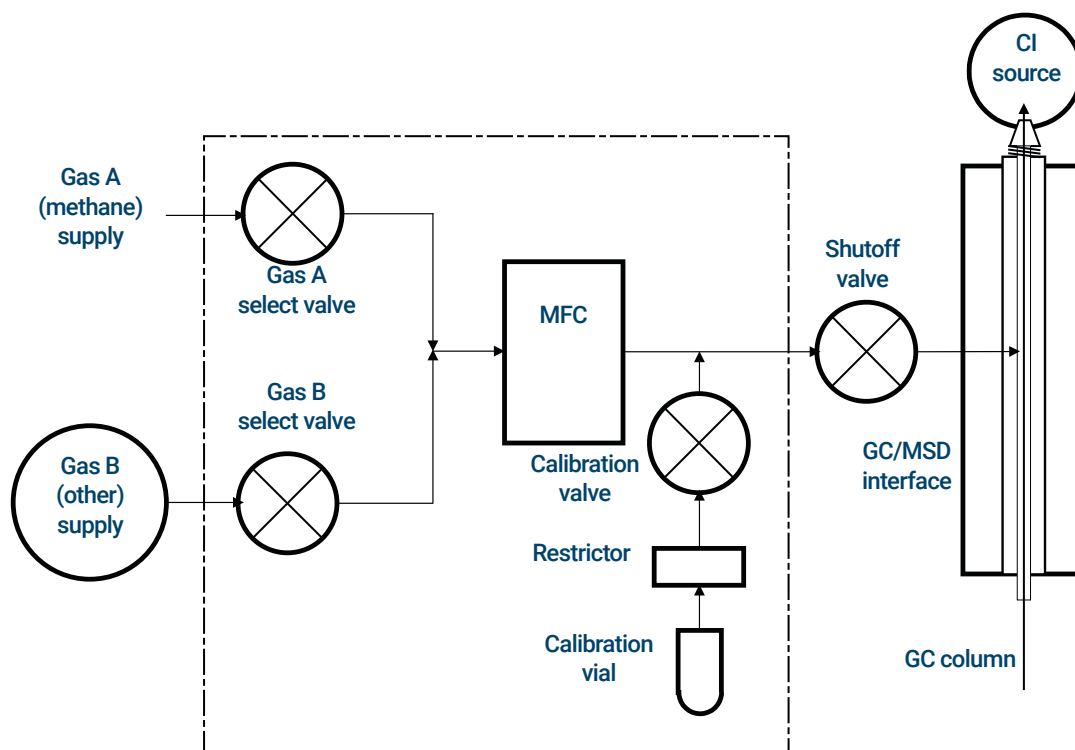

Figure 3. Schematic of CI flow control module
- 1 See **Figure 3** on page 67 and **Table 7** on page 67.
- Close valves starting at the gas select valves (**Gas A** then **Gas B**), then close the shutoff valve. See **Figure 3** on page 67 and **Table 7** on page 67.